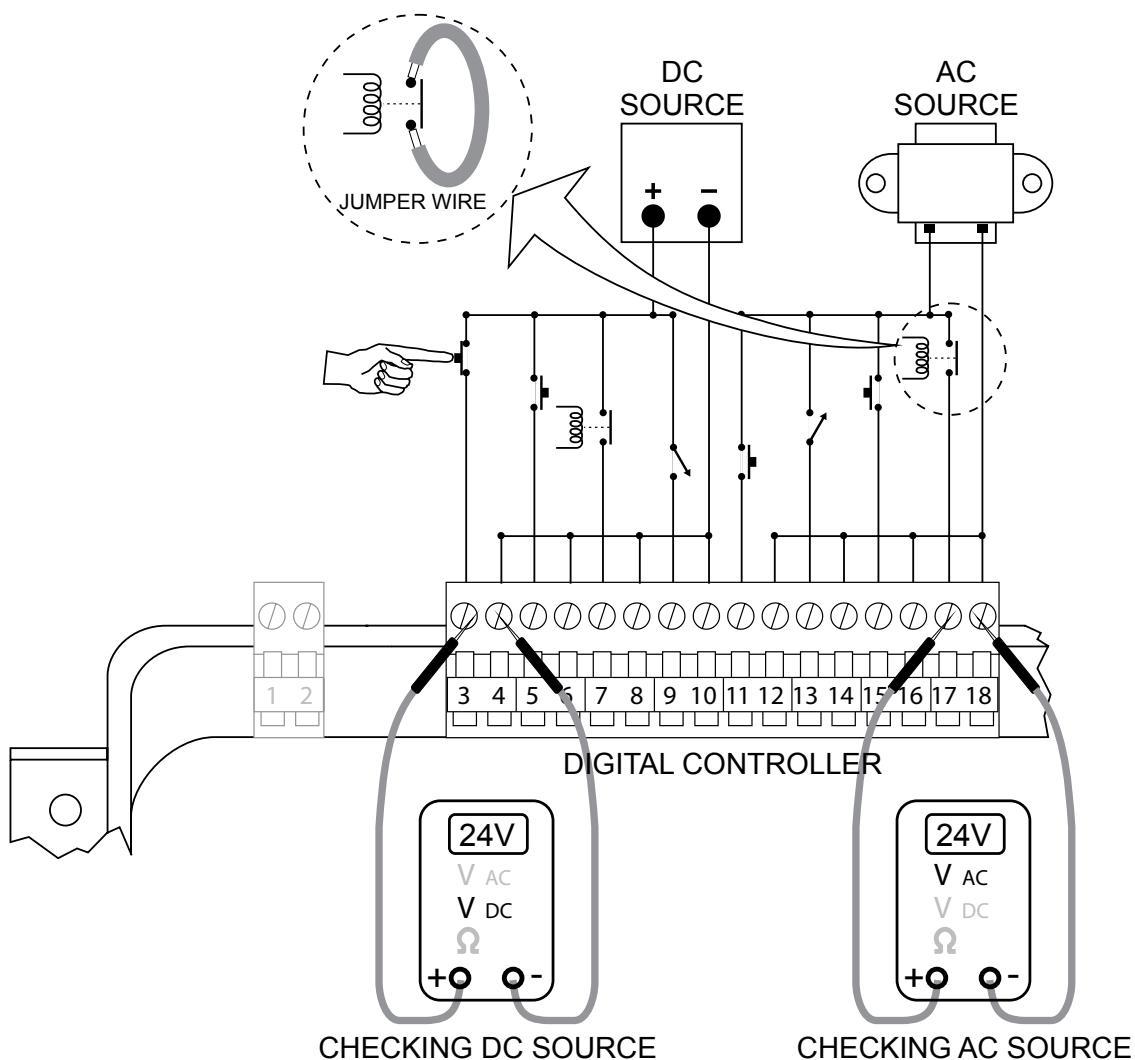

Figure 4-2: Checking Digital Input Wiring
Figure 4-2 is a schematic representation of a typical Digital Controller installation containing AC- and DC-powered digital inputs and how the wiring can be checked using a digital voltmeter. Use Figure 4-2 for reference when performing the following procedures:
5. With the voltmeter still connected, manually close the input contacts. If it is not possible to close the circuit manually, connect a jumper wire across the contacts at the switching device, as shown in Figure 4-2.